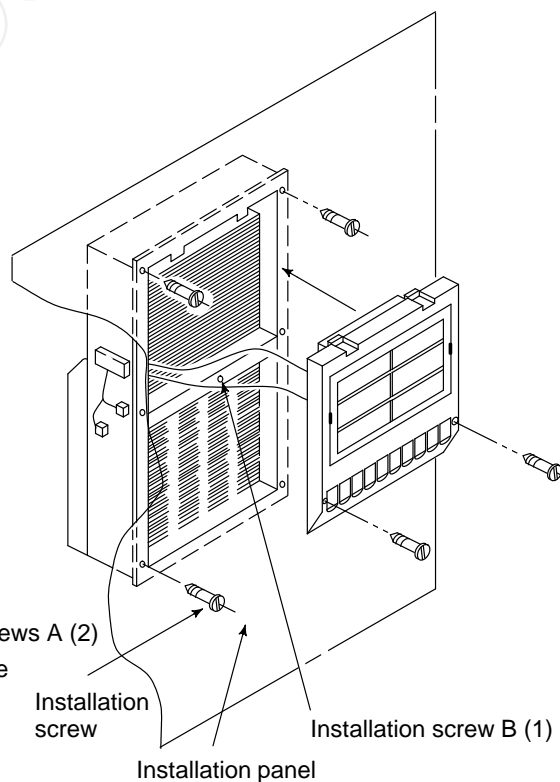

Fig. 2 Install the heat exchanger main unit and the external fan unit
- 2 Install the heat exchanger main unit in the installation section which has been panel cut. (Fig. 2)